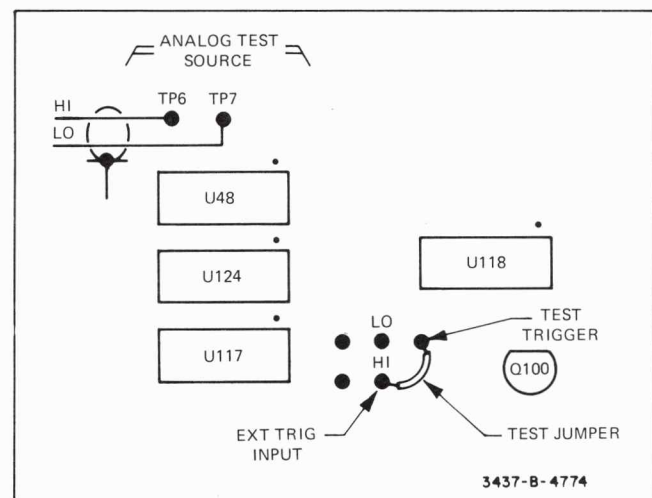

Figure 5-12. Analog Test - Source.
- a. Connect the internal test source (located on the A2 logic board) to the analog input terminals, and test trigger to the delay logic external trigger input (Figure 5-12).